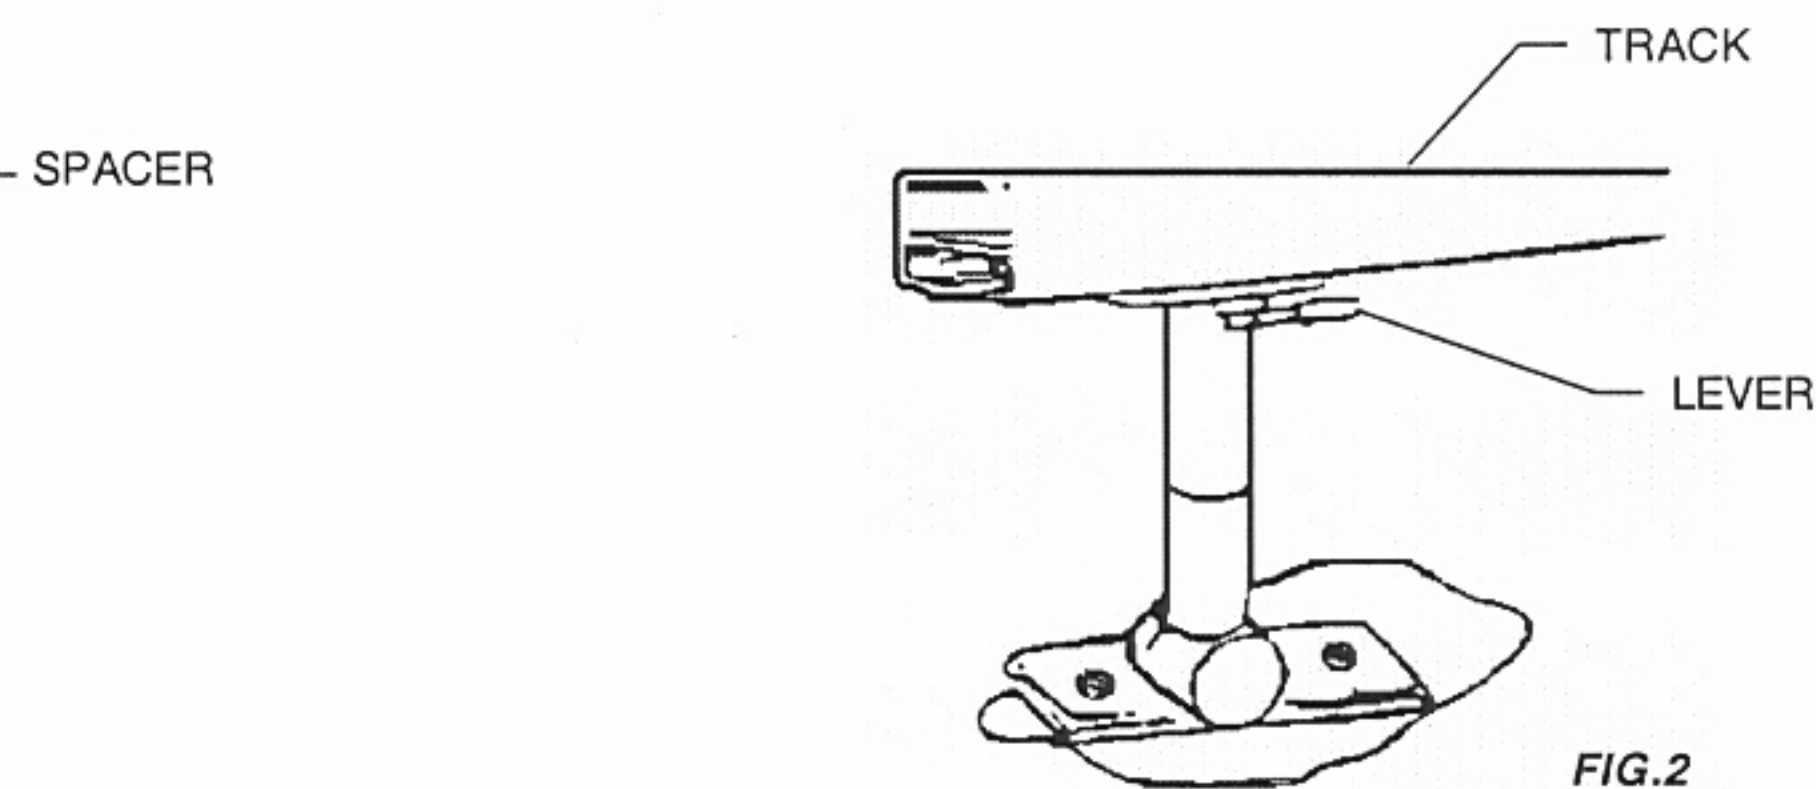

FIG.2
3. Insert the adapter into track and turn lever 90° clockwise. (Fig.2)